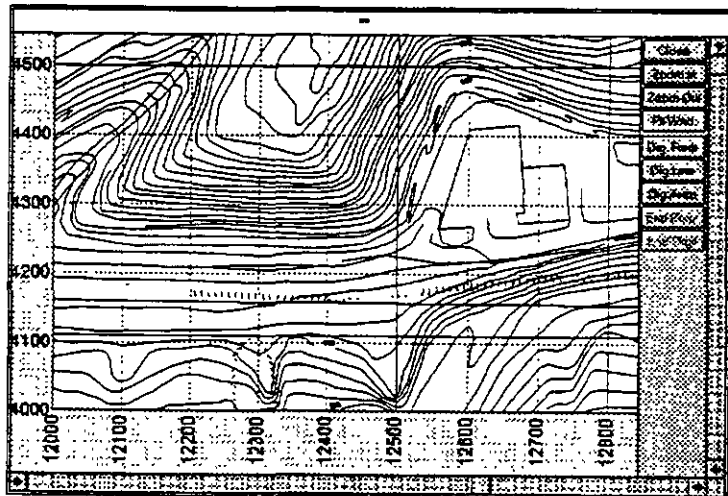

Figure 15-12
5. With the map coordinate system still on the screen, select again **Import DXF File**. The procedure in step 2 will be repeated but the program will continue with plotting the map content, that is contour lines, roads, etc. When you zoom into a portion of the map, it may look as shown in Figure 15-12.